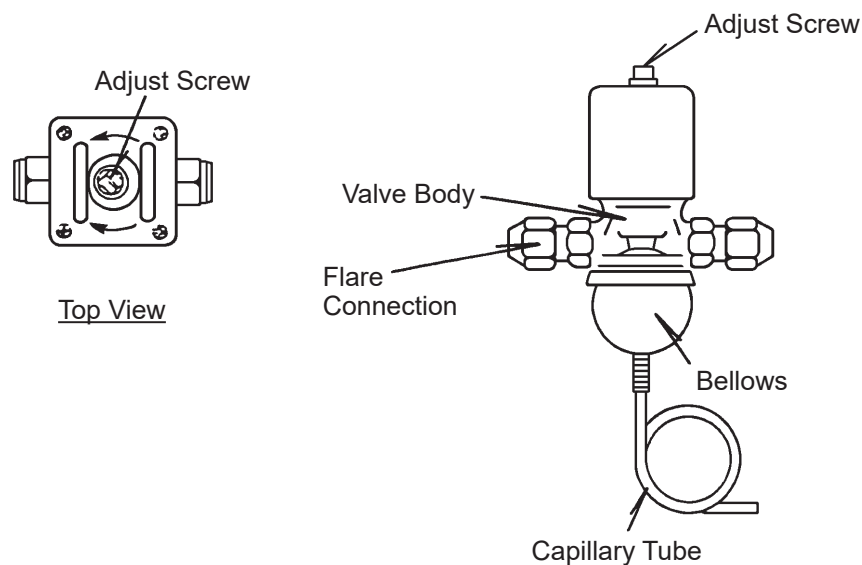

Fig. 10
- 4) Disconnect the outlet and inlet of expansion valve using a pipe cutter. Disconnect the inlet side near the expansion valve to keep the pipe length as much as possible. Disconnect the outlet side at the broken line in Fig. 10. If needed, expand the end of disconnected pipes using a pipe expander to connect with the new expansion valve.